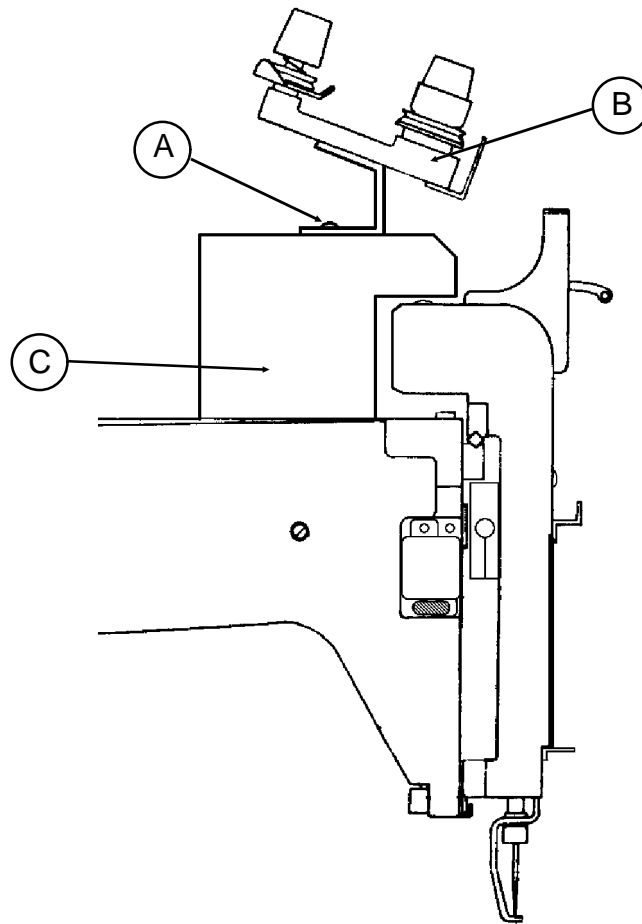

Figure 1
4. Remove the two Retaining Screws (Figure 1-A) that hold the Tensioner Assembly (Figure 1-B) and the Color Change Cover (Figure 1-C) to the top of the Head.